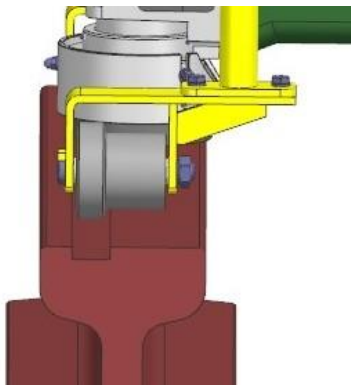

Fig. 9: Roller for flat-groove rails
- for flat groove rails (Fig. 9)